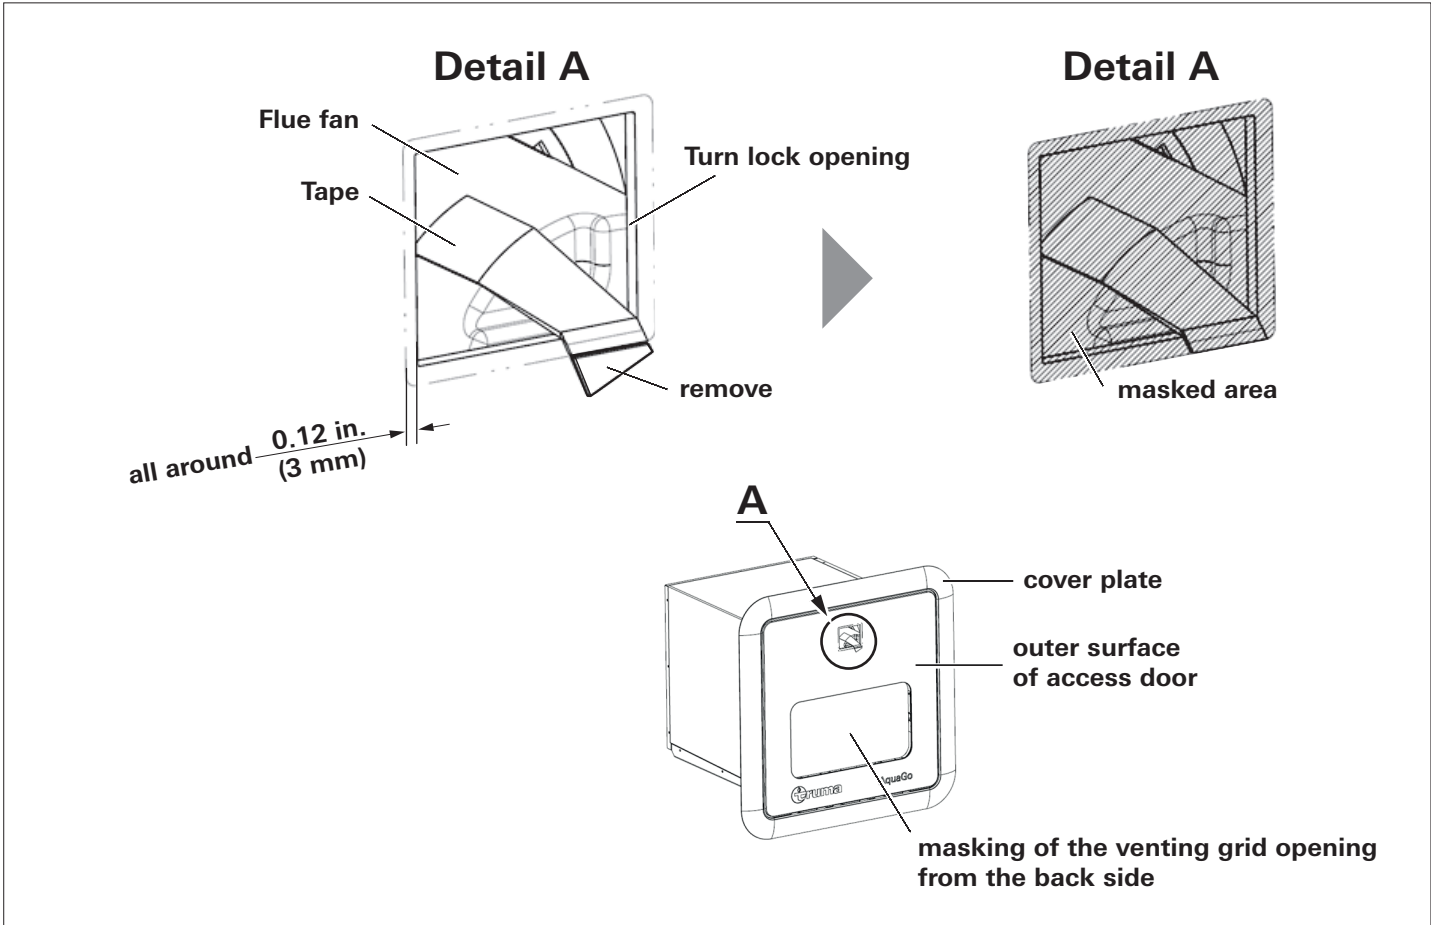

Fig. 2
#### **The following parts (see Figure 2) may be painted:**
- This can be done with help of tape that joins the flue fan and the edge of the turn lock opening (see Fig. 2 for this detail).